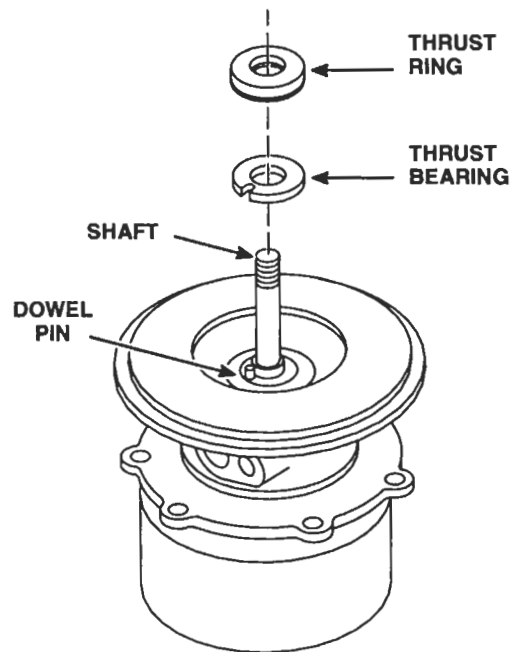

Figure 28. Thrust Bearing in Center Housing Installation
6. Lubricate the backplate or thrust plate bearing with engine oil, then place it on the shaft with the three oil grooves in the face of the bearing facing up (Figure 28.) Align the hole and slot in the bearing with the dowel pins in the center housing, then place the bearing over the dowel pins and against the housing.